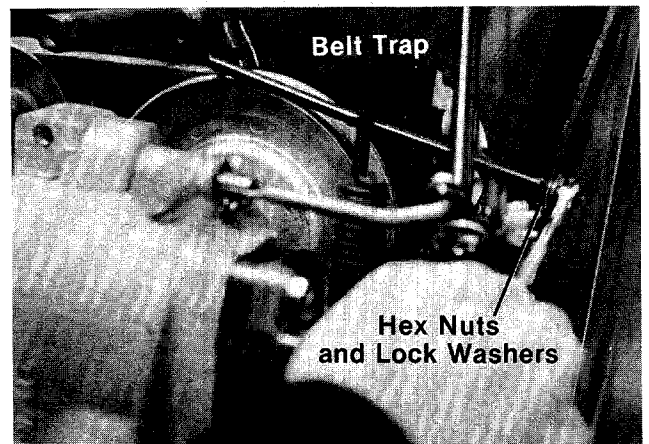

FIGURE 29.
4. Remove the belt trap (located on the left hand side of the transaxle pulley) by removing two hex nuts and lock washers. See figure 29.